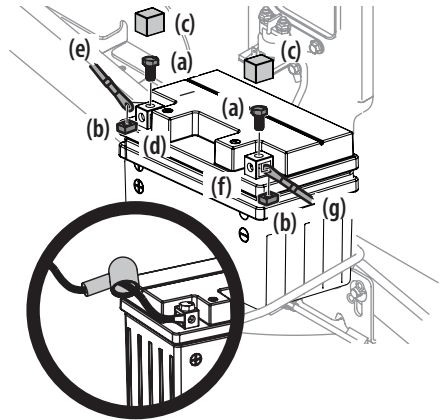

Figure 21
1. Remove the factory installed hex screws (a) and square nuts (b) located either on the end of the wiring harness or in the bag with this manual. Retain the hardware for later instructions. See Figure 21.
2. Remove the plastic cover (c), if present, from the positive battery terminal (d) and attach the red cable (e) to the positive battery terminal (d) with one of the hex screws (a) and square nuts (b), from Step 1. Use a Philips screw driver. See Figure 21.
3. Remove the plastic cover (c), if present, from the negative battery terminal (f) and attach the black cable (g) to the negative battery terminal (f) with the remaining hex screw (a) and square nut (b). See Figure 21.
4. Position the red rubber boot over the positive battery terminal to help protect it from corrosion. See inset in Figure 21.